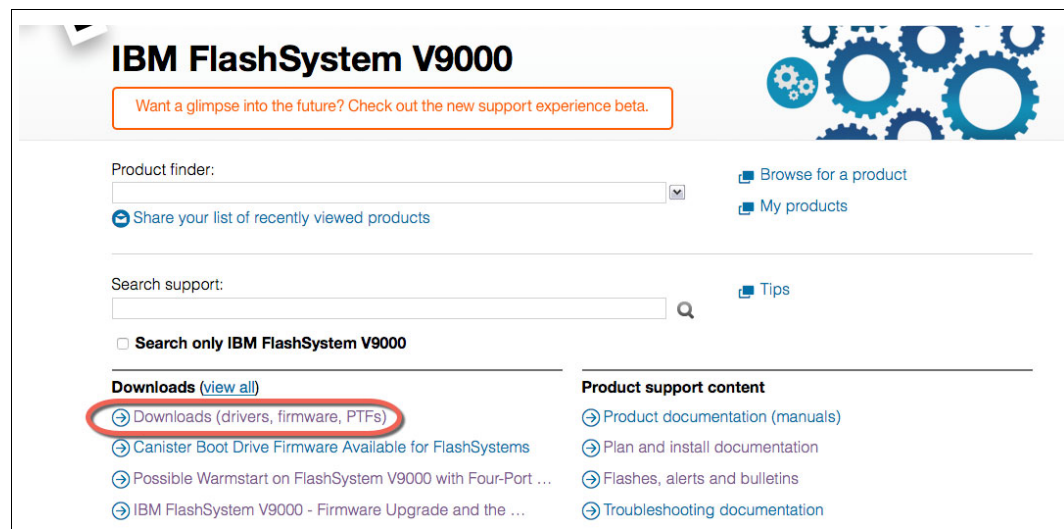

Figure 7-43 Download updates for IBM FlashSystem V9000
2. The product page provides capabilities to download product updates and review other product documentation. In Figure 7-43 new product firmware is displayed by selecting **Downloads (drivers, firmware, PTFs)**.